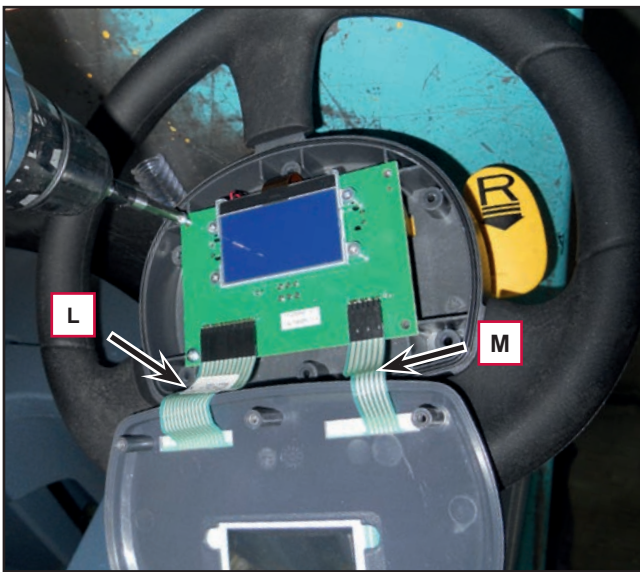

Figure 19
2. Disconnect the flat connections (L, Figure 19) and (M) from the display electronic board (EB2).